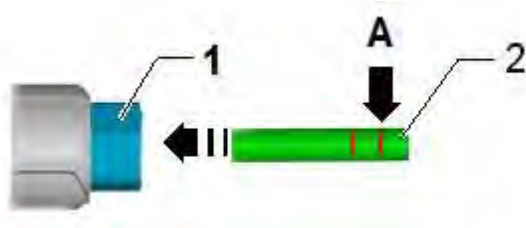

Figure 7
- Referring to Figure 7 - Exerting moderate pressure, push the air pipes all the way into both ends of the connection piece -1-.